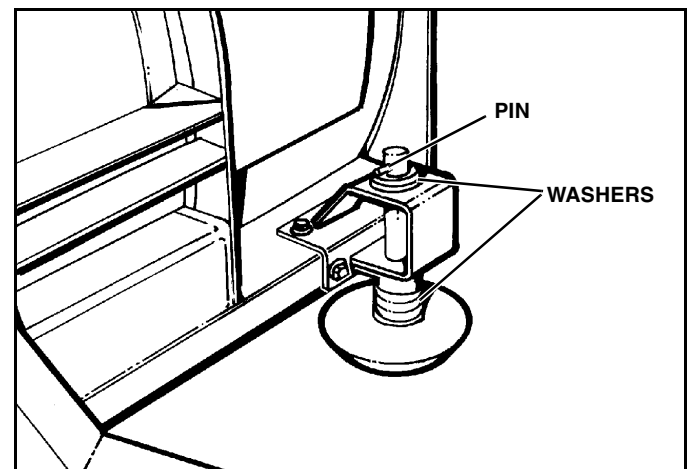

Figure 1-9
14. Adjust each disk shoe assembly by removing disk shoe mounting pin and adding or subtracting washers on the top or bottom of the disk shoe mounting bracket as required according to measurements taken in step #11 (See Figure 1-9)